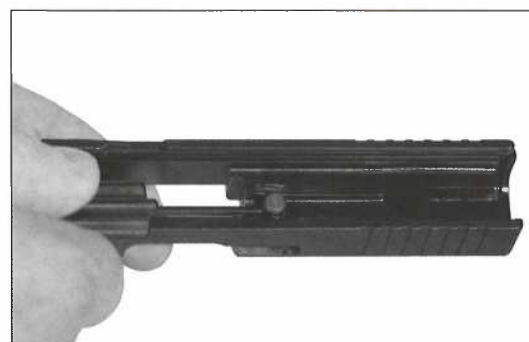

Fig. 31
- If it does not drop out of the slide, the slide can be tapped on a non-metallic surface to free the firing pin safety. If the firing pin safety is dirty and it does not fall out easily, use the pin punch or a pair of pliers to remove it. (Fig. 31)